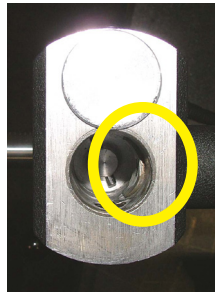

Figure 10-5. Retractable Handle Pin Not Visible
- Step 4. Look down the top of the UTM side and verify the retractable handle pin is not visible. If the pin is visible, rotate the collar of the retractable handle counter-clockwise until the pin is not visible (Figure 10-5).